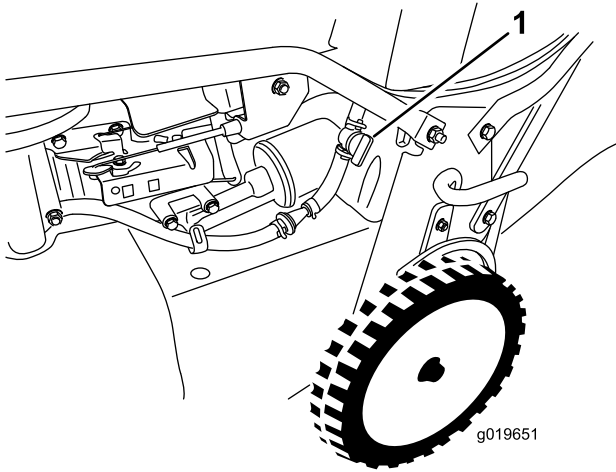

Figure 19
2. Open the fuel shutoff valve (Figure 19).